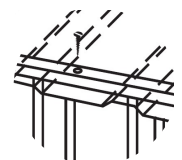

Fig 2
- 6th: Using your ladder and tape measure, fix down thru the top of the roof, thru the pan into the top channel of front and back walls. (10mm more than the overhang). Fix beside every 2nd rib. (Fig 2). You will not need to worry about these fixings leaking as any water seeping thru these fixings will end up on the outside of the walls.